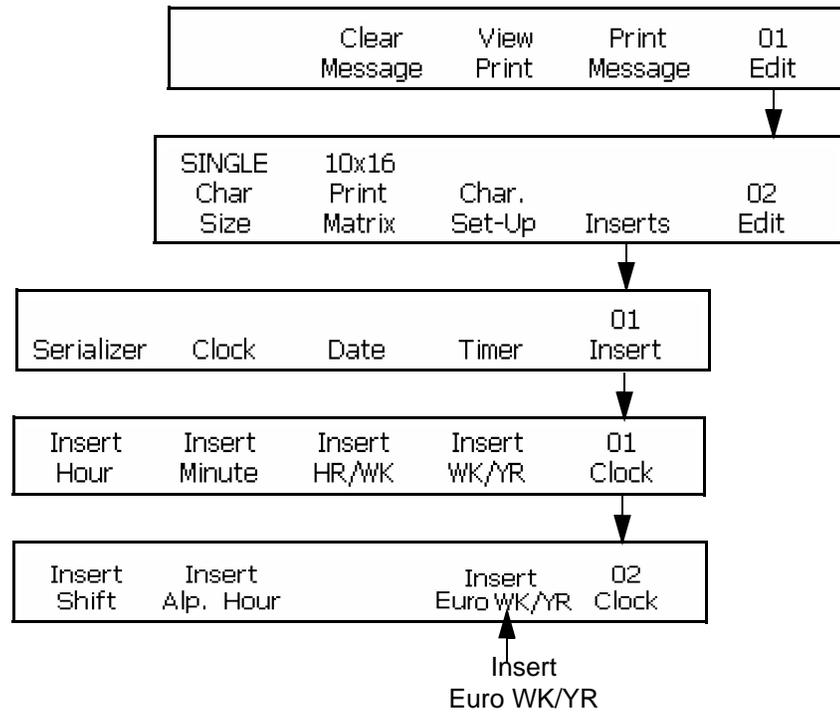

Figure 6-29: Access Frame <02 Clock>
- Begin in the Frame <02 Clock>. Refer to Figure 6-29 on page 6-36.